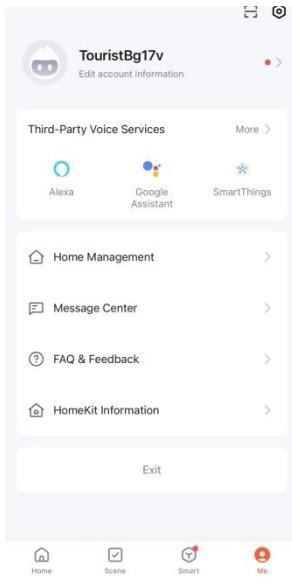

Figure Q-5
(5) Alexa/Google Assistant/Smart Things operations (See Figure Q-5)